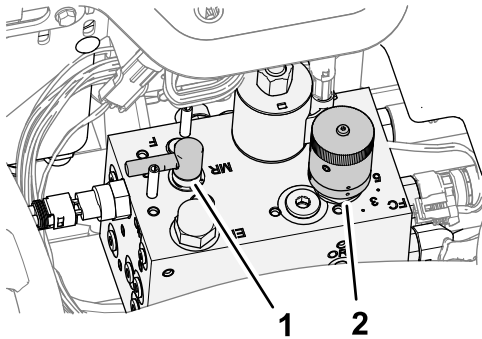

Figure 93
4. Move the backlap lever to the R (backlap) position (Figure 93).